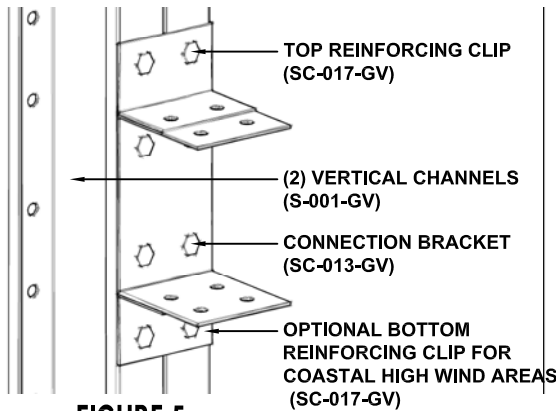

FIGURE 5
1. **Figure 5** - Interior Structural Connection Detail - Top Reinforcing Clip (SC-017-GV), Connection Bracket (SC-013-GV) and Bottom Reinforcing Clip (SC-014-GV) (for coastal high wind areas) all connected with $\frac{3}{8}$ " bolt/nuts. Interior support shown. **ALWAYS INSTALL THE TOP REINFORCING CLIP (SC-017-GV).**